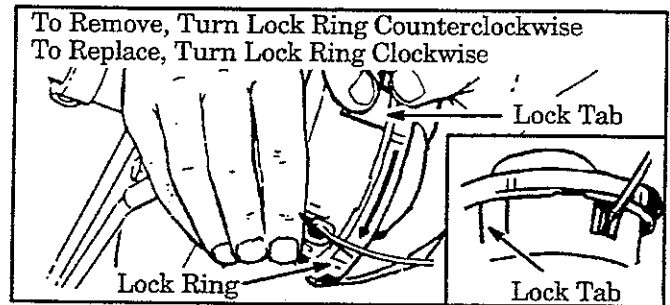

Figure 17
- a. Hold the trimmer head as shown in Figure 17. Press the lock tab and turn the lock ring.